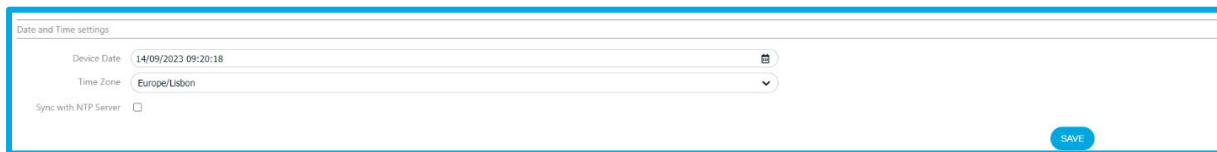
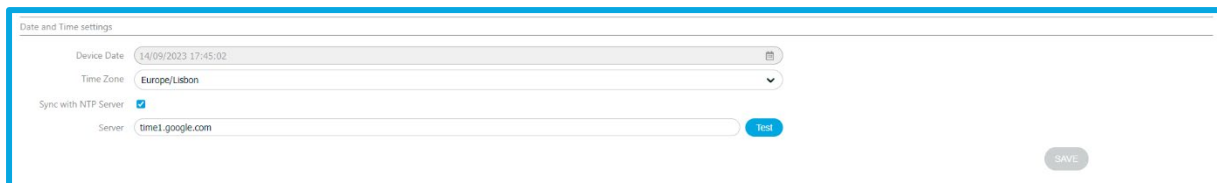

Figure 44 – Section to configure date and time with NTP disabled.
Figure 45 – Section to configure date and time with NTP enabled.
2. **Date and Time Settings:** set the device date and time, manually or based on the NTP protocol. When syncing with the NTP server, you can edit the server field, as shown in Figure 44 e Figure 45, and the user can test if the entered server is correct before saving the changes.